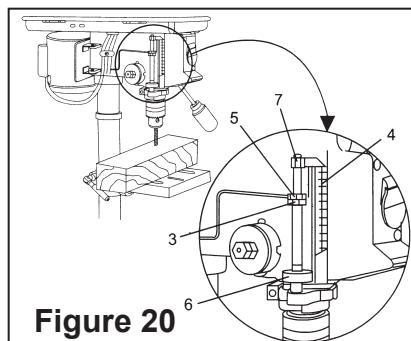

Figure 20
4. Spin the lower nut (3) down to contact the depth stop lug (6) on the head (Figure 20).
5. Spin the upper nut (5) down and tighten against the lower nut (3) (Figure 20).
Depth scale method (Figure 20)